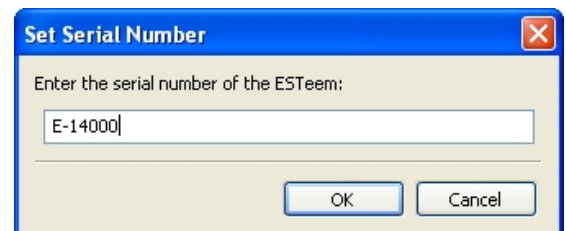
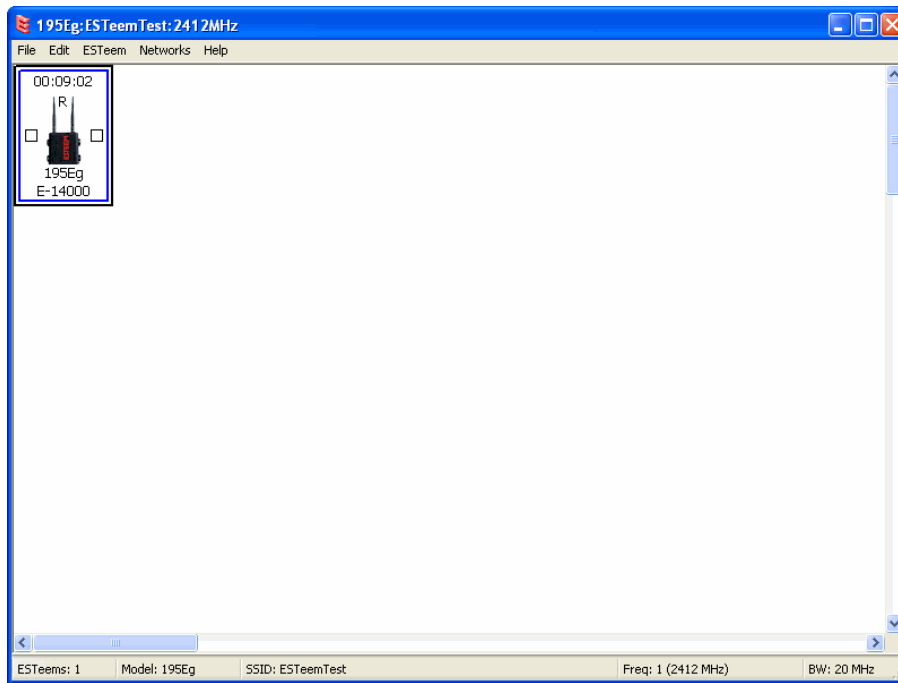

Figure 10: Enter the Serial Number
Figure 11: Main Office ESTEem 195E
2. Enter in the ESTeem Model 195E serial numbers used for the example (for example enter E-14000 in the Set Serial Number Box) and press the OK button (Figure 10). The ENC Utility will look up the ESTeem 195E's serial number in the database and match the correct Wireless LAN MAC (WLAN MAC) address to the modem. This WLAN MAC address will be displayed above the modem symbol on the screen (Figure 11).